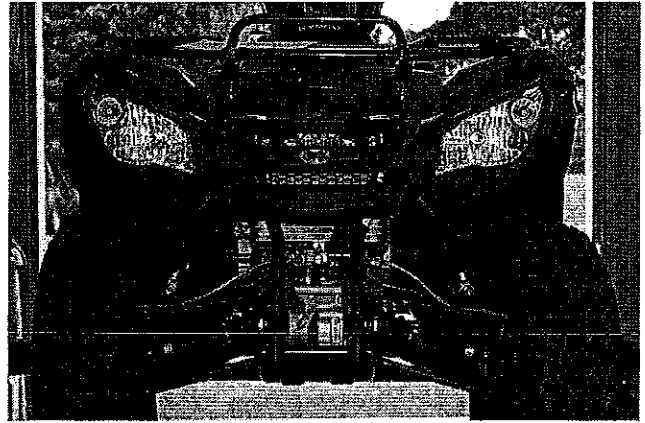

Figure 1
3. Remove bumper. See figure 1.